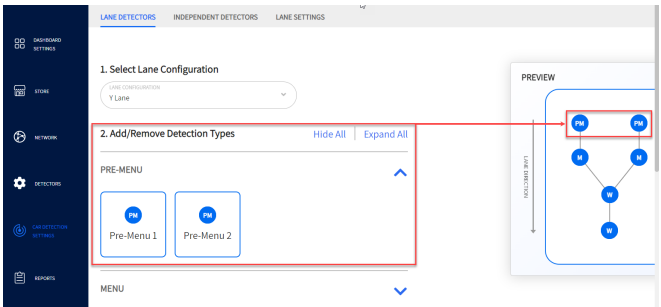

Fig. 5.6
6. Select CAR DETECTION SETTINGS from the sidebar menu. Under Add/Remove Detection Types, expand the PRE-MENU option and click Add to add detectors. See Fig. 5.6.
7. The PREVIEW graphic is dynamic and reflects the store's lane layout when changes are made. (If in a store with an existing Timer system, the layout should be the same as it was previously was but with a new PM dot (solid blue) added to the beginning of the graphic, as shown in Fig. 5.6.